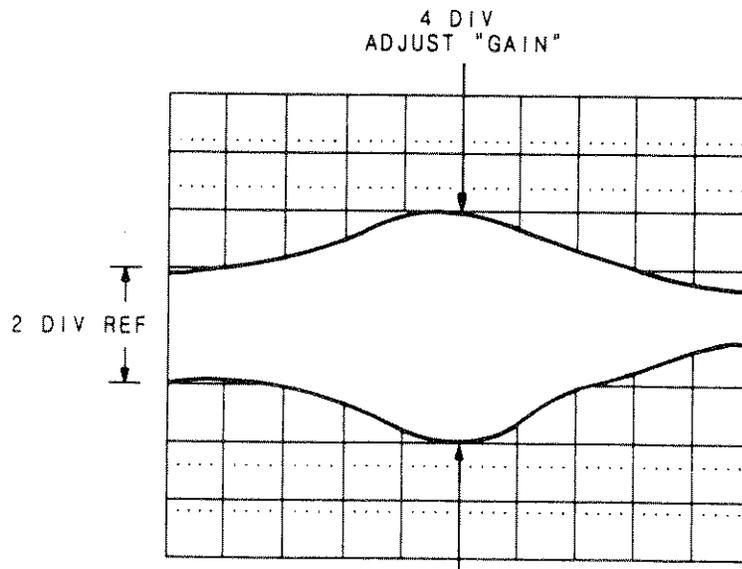
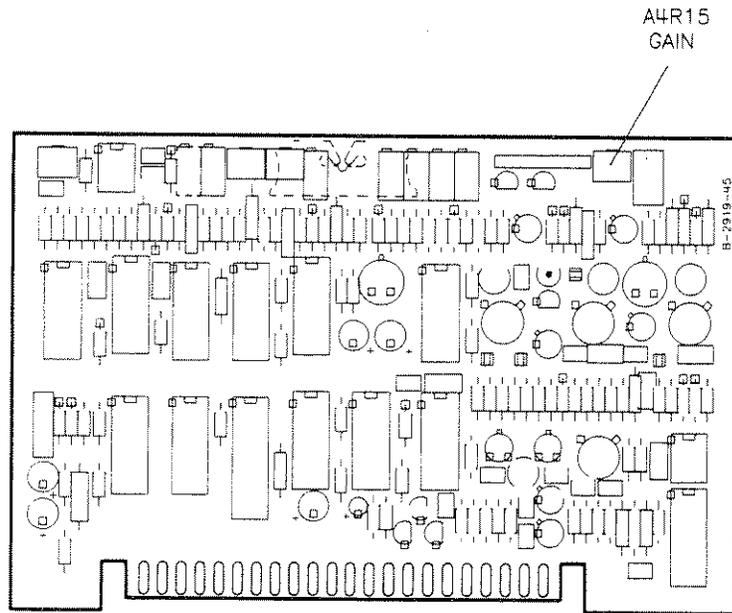

Figure 5-40. ALC Gain Adjusted Correctly (Worst Case)
Figure 5-41. ALC Gain Adjustment Location
5. Adjust the far left side of the modulated signal for two divisions peak-to-peak by using the CAL on the channel A knob. See figure 5-40.
6. While monitoring channel A, manually sweep the entire plug-in frequency range and adjust A4R15 (GAIN) for four divisions of peaking at the plug-in frequency where the highest gain peaking occurs. See figure 5-40. Figure 5-41 shows the adjustment location.